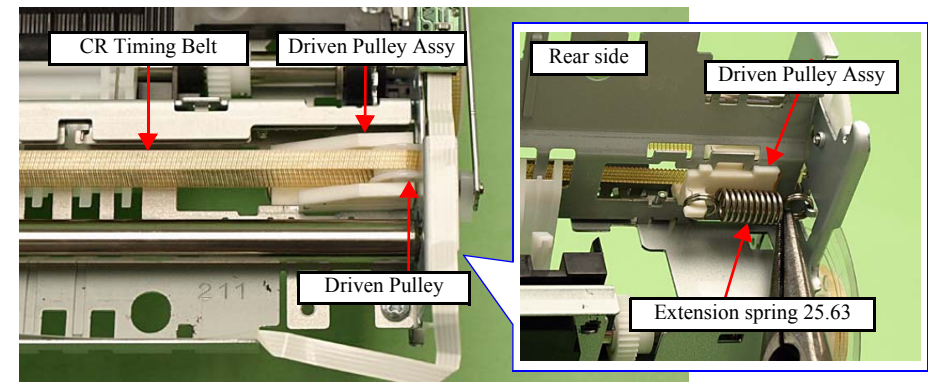

Figure 4-129. Removing the Driven Pulley Assy
2. Remove the Extension spring 25.63 under the Driven Pulley Assy with longnose pliers, and remove the Driven Pulley Assy from the Main Frame. (See Fig. 4-129.)